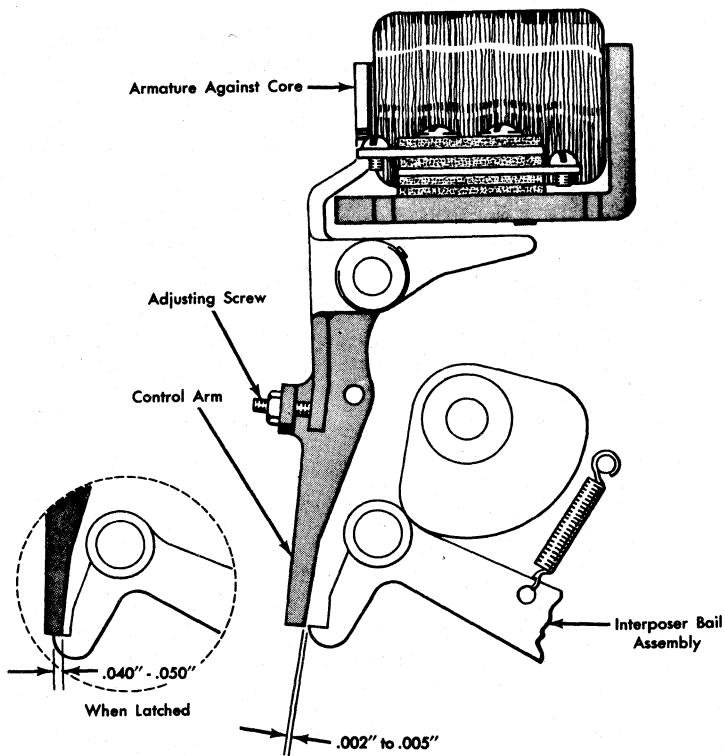

Figure 115. Control Arm Adjustment
- Set adjusting screw in control arm to provide .002-inch to .005-inch unlatching clearance between control arm and interposer bail (Figure 115). This should provide .040-inch to .050-inch latching overlap when magnet is de-energized.